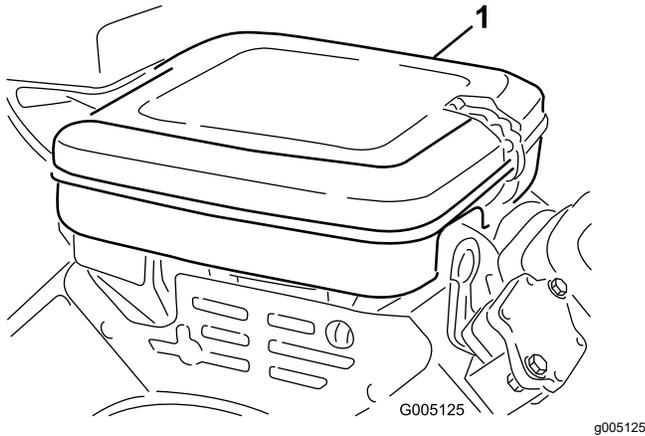

Figure 38
1. Clean the air-cleaner cover (Figure 38).